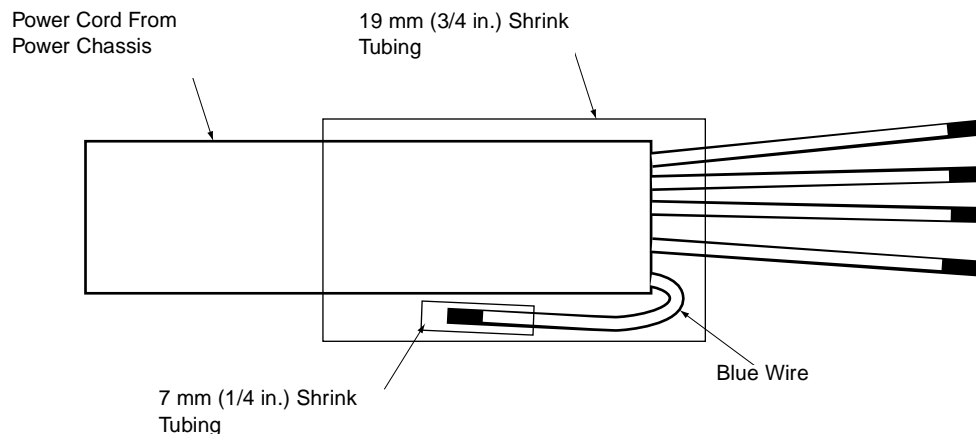

Figure 4-20. Insulating Blue Wire in Power Cord (200-240 VAC)
4. Place the 7 mm (1/4-inch) shrink tubing over the end of the blue wire in the power cord and use a heat gun to apply it (see Figure 4-20).
5. Fold the blue wire back (see Figure 4-20).
6. Place the 19 mm (3/4-inch) shrink tubing over the blue wire and the power cord insulation and use a heat gun to apply it (see Figure 4-20).